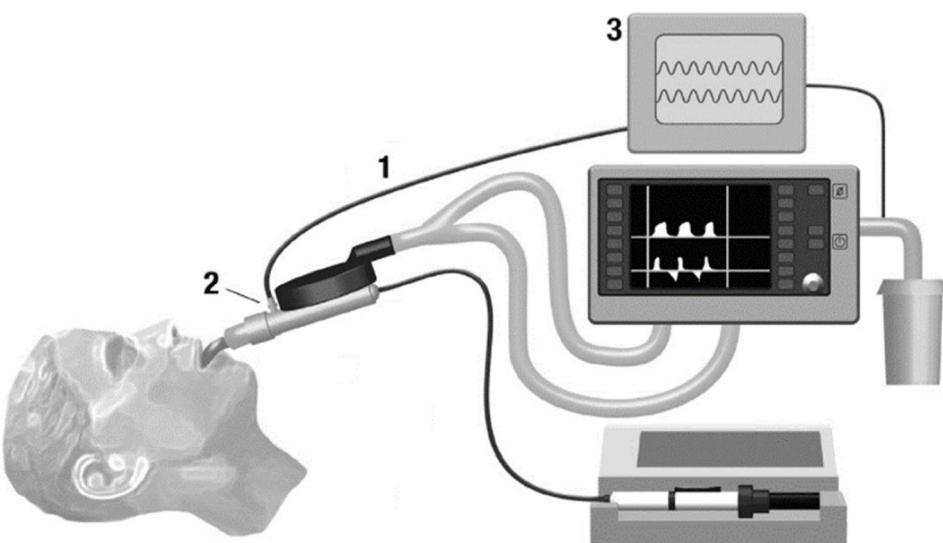

Figure 1
1. Connect the Gas Sampling Line (1) to the AnaConDa gas monitor sampling port (2) as shown in Figure 1. Rotate the Luer connector clockwise for a secure fit to ensure that there is no leakage of gases at the connection point.
2. Connect the Gas Sampling Line (1) to the respiratory gas monitor (3). Rotate the Luer connector clockwise for a secure fit to ensure that there is no leakage of gases at the connection point.